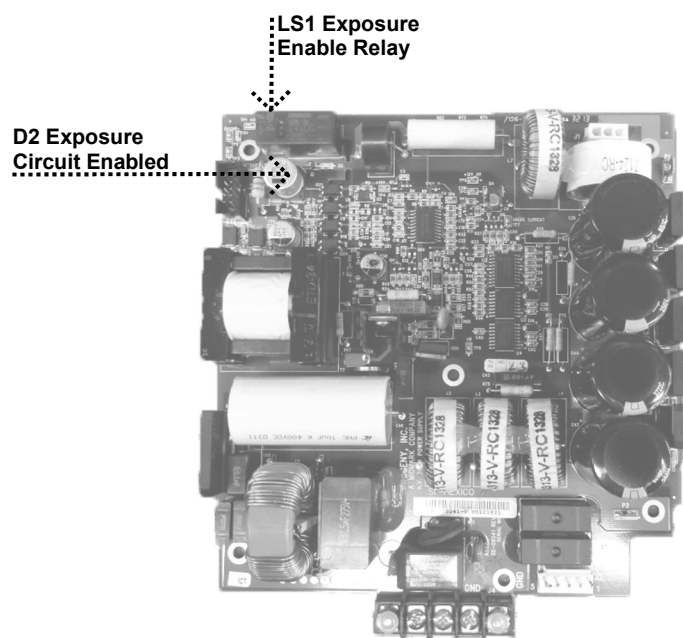

Figure 65
2. If the Operator Display indicator sounds, but the Logic Board indicator does not activate, observe LED D2 on the Power Supply Board, and listen for the relay LS1 to activate on this same board (Figure 65). LED D2 should illuminate during the exposure request. If not, inspect the condition of the ribbon cable between the Power Supply and the Logic Boards. If the ribbon cable is acceptable, replace the Logic Board.